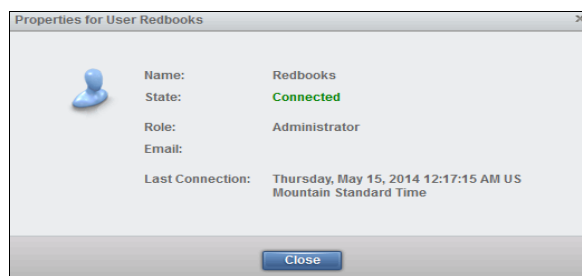

Figure 4-66 User properties
- **Properties:** This option displays the properties of the user, the state of the user, and the user's last connection, as shown in Figure 4-66.